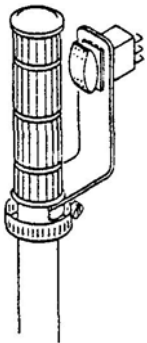

FIG. 15
- (1) Attach the switch and mount assembly to the L.H. control lever. Secure the switch mount assembly to the control lever using a #16 hose clamp. See Fig. 15.